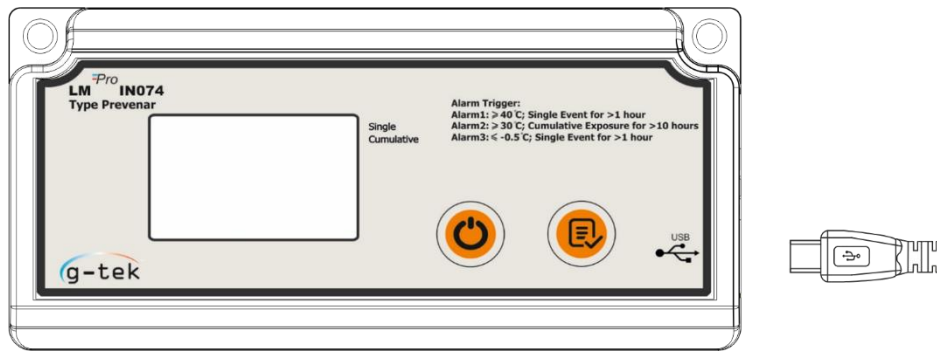

Figure 7 Micro-USB Attachment
- Connect the LM^{Pro} IN074 to Windows PC via the USB Type-A port, as shown in figure 7.